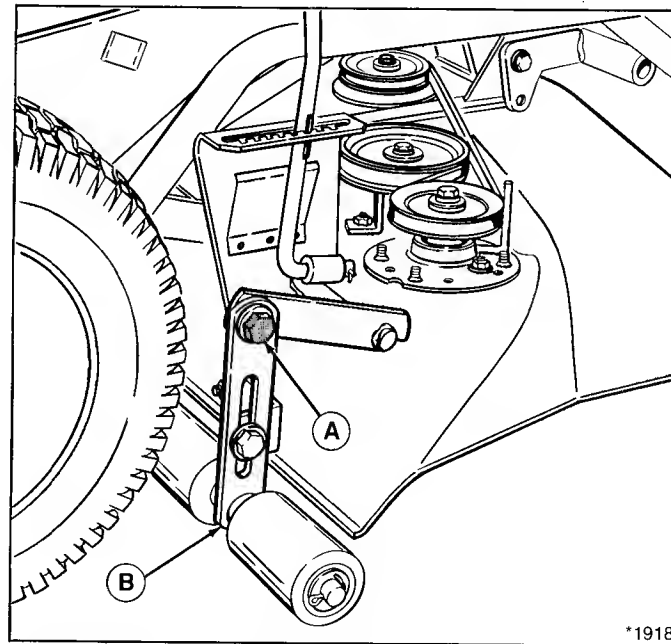

Figure 46. Side-to-Side Leveling
3. Turn the blades side-to-side and measure distance from outside tips of blades to ground. Measurement should be equal. For adjustment, refer to figure 46.
- a. Loosen the capscrew (A) on the right hand side of mower roller bracket (B).